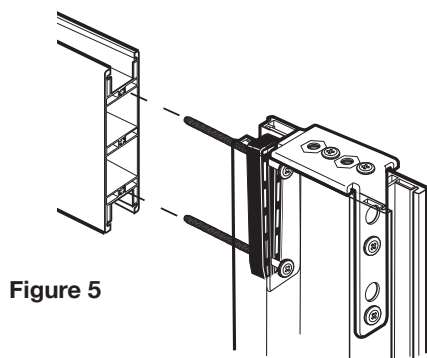

Figure 5
Place the end of the Top rail (C) against the screws, lining up the holes in the extrusion. Once in place, continue tightening screws until stile and rail are flush and secure. This will be the top of the door See Figure 5.